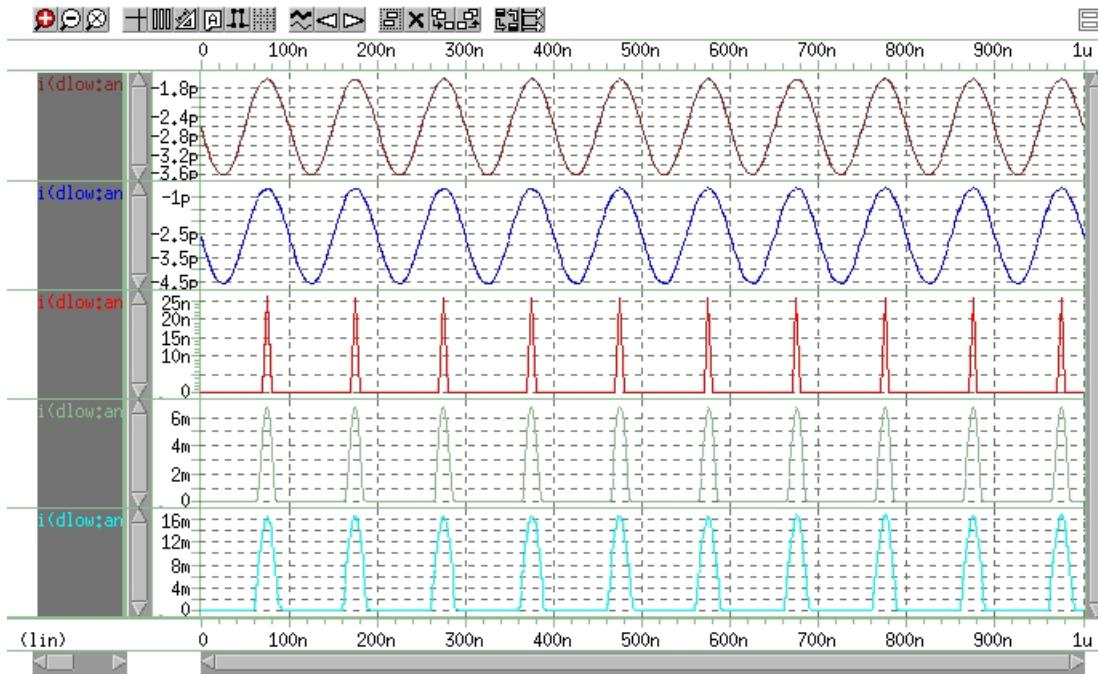

Figure 287 Plot of Current through Diode dlow vs. Time
12. Click the ungroup panels icon ( )on the WaveView panel tool bar to display a plot similar to the one shown in Figure 287 on page 1191.